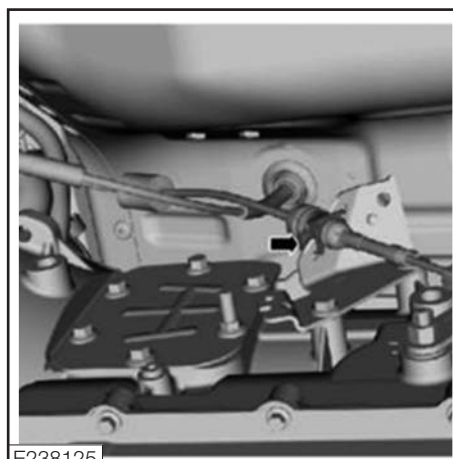

Figure 95
5. Remove the clip and the selector lever cable (Fig. 95).